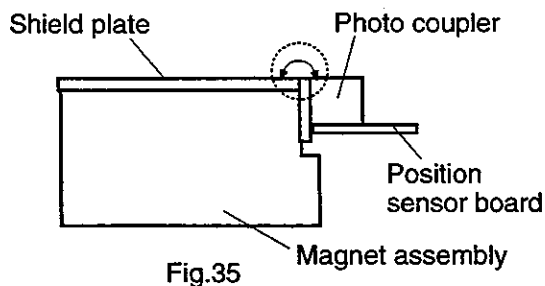

Fig.35
**Step 14. Remove the force motor assembly from the alignment fixture and install the position sensor (Fig 35).**